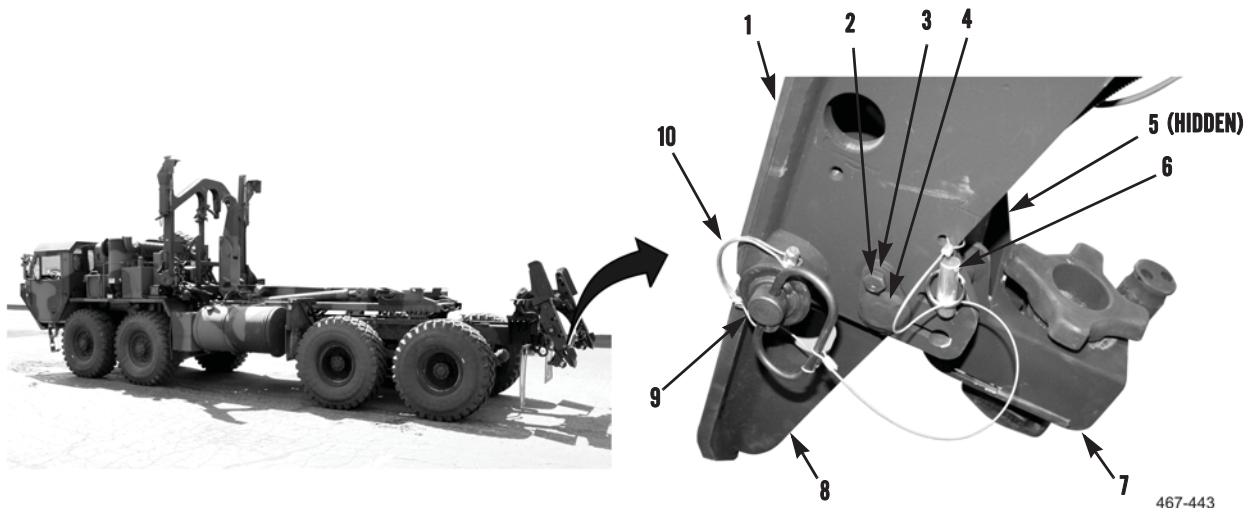

Figure 1. Twistlock Assembly.
1. Remove locking pin (Figure 1, Item 6) from rear slider bed (Figure 1, Item 1).
2. With assistance, support twistlock housing (Figure 1, Item 8) and twistlock assembly (Figure 1, Item 7) and remove bolt (Figure 1, Item 2), washer (Figure 1, Item 3), roller pin (Figure 1, Item 4), two spacers (Figure 1, Item 5), and twistlock assembly from rear slider bed (Figure 1, Item 1).
3. Remove clip (Figure 1, Item 10) from locking pin (Figure 1, Item 9).
4. While supporting twistlock housing (Figure 1, Item 8), remove locking pin (Figure 1, Item 9) and twistlock housing from rear slider bed (Figure 1, Item 1).